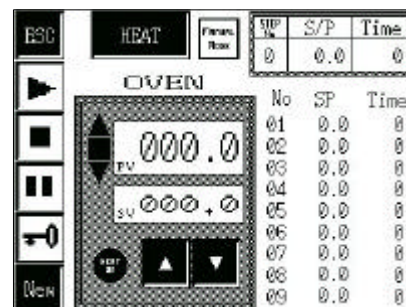

Fig.45
The screen shown in Fig.45 displays the control for the Oven temperature. The current temperature of the oven is displayed in the upper window (PV) in centigrade and the lower window displays the set value (SV) also in centigrade.